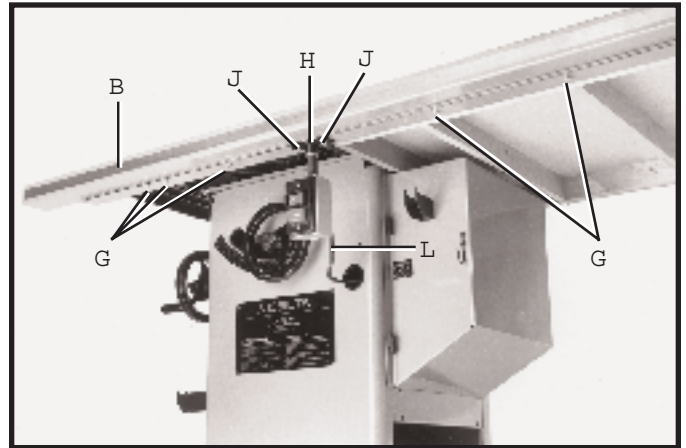

Fig. 21
18. Position the guide tube (B) Figs. 21 and 22, on the front rail and fasten the guide tube to the rail using the 1/2" long hex screws (G) and lockwashers in all of the holes except the ones used to fasten the switch adapter if applicable.
19. Figure 21 illustrates the Unisaw switch adapter (H) mounted to the front rail and guide tube using two 3/4" long hex screws (J) and lockwashers.
21. NOTE: If there is not enough cord (L) Figs. 21 and 22, available to pull out and reposition the switch, simply cut the cable strap holding the cord to the inside of the saw cabinet. After switch is repositioned, make certain that the cord does not come into contact with the saw blade and use the cable clamp supplied with the fence to hold the cord in position.